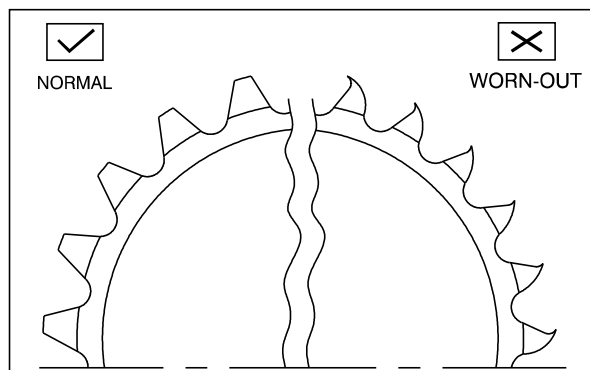

Fig. 6.97
- Inspect sprocket rear teeth for wear. If they are worn-out as illustrated (Fig. 6.97), replace the sprocket with a new one.